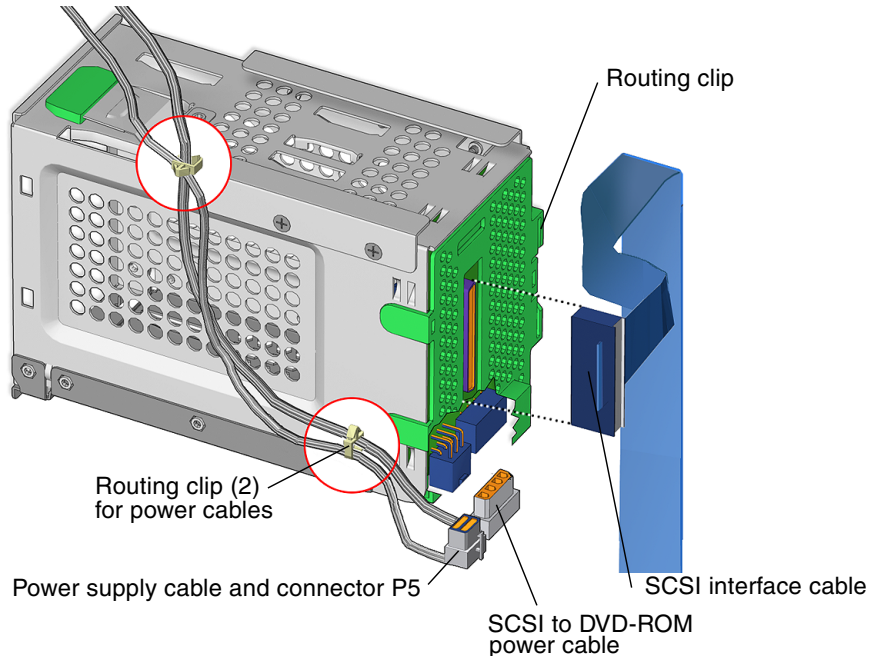

FIGURE 14-13 SCSI Interface and Power Cables
5. Release the SCSI interface cable from the routing clip (FIGURE 14-13).
8. Disconnect the 4-pin SCSI to DVD-ROM power cable (FIGURE 14-13).
10. Disconnect 6-pin power cable P5 from the SCSI backplane (FIGURE 14-13).